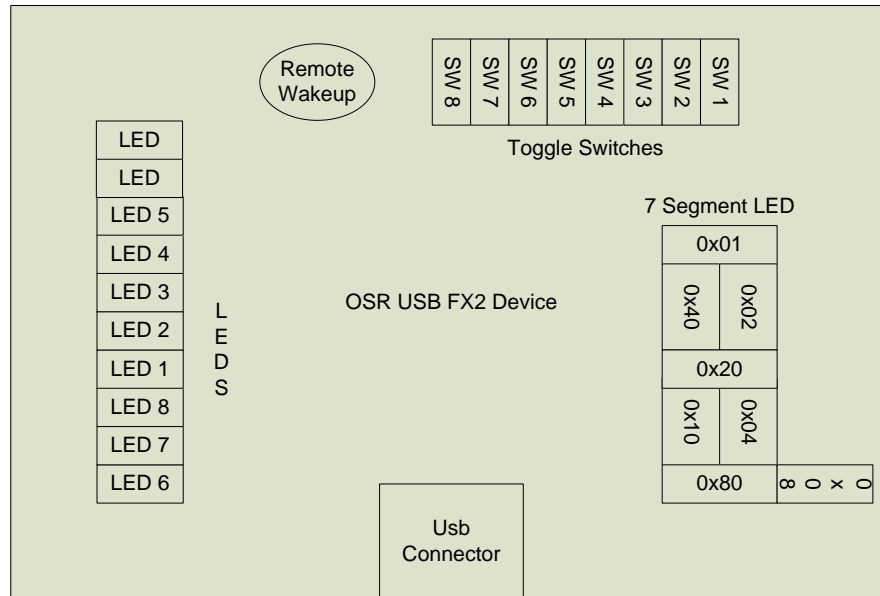

Figure 2 - OSR FX2 Device Layout
Below, Figure 2 gives a general layout of the device, its various LEDs, Switches and Segmented LEDs. The reader should note the numbering on the various LEDs, Switches and Segmented LED because the input and returned bitmasks represent their placement on the device.
- The numbering of the LEDs in the bar graph block is not intuitive. When reading the state of the LEDs a returned value of 0x08, indicates that “LED 1” is on, whereas a returned value of 0x10, indicates that “LED 2” is on. The numbering shown in Figure 2 should make this clear. In case you didn't see it mentioned above, the top 2 LEDs in the bar graph aren't connected to anything... so you won't be able to light them.
- The switch numbers, as addressed by the device firmware, are reversed from the number printed on the switch pack on the board. For example, a returned value of 0x01 indicates that Switch 1 is toggled, even though it is numbered “8” on the switch pack on the board. Again, the numbering shown in Figure 2 shows the actual number used by the firmware.
- For the 7-segment display, the hex values shown in Figure 2 correspond to the value to be passed to the board to light the indicated segment of the display. For example, to display a “1” in the display, you’d want to light the two right-most vertical display segments. To light these two segments, send the value 0x6, which is 0x02 (to light the top right-most vertical bar) OR’ed with 0x04 (to light the bottom right-most vertical bar). If you're wondering what the funny little block with the value 0x08 is on diagram, it's for the decimal point. So, actually, it's an 8-segment display, isn't it.